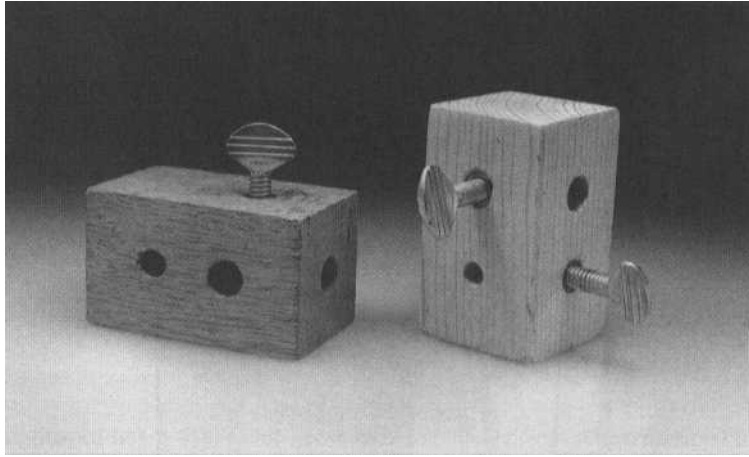

Figure A-7 Wooden adapter blocks with 3/8 and 1/4 inch holes. The 1/4x 20 thumbscrews are threaded into 1/4 x 20 inserts.
Figure A-4 Beam-splitter made of 1/4-inch plywood and lined with black flocked paper as per Figure 7-7. The unit is mounted to an old microscope light base via an adapter (Figure A-7). A 1/4-inch carriage bolt passes through the adapter and is threaded into a threaded insert in a black plate on the side of the beam-splitter box.
**Figure A-6** Homemade gel/filter holder of 1/8 x 1/2 inch flat aluminum stock painted black. Joints are fastened with nuts, lock washers and bolts, or thumbscrews. Mounted to light stand with adapter block. (see Figure A-7)
The unit can be attached to the light stand by means of a homemade adapter such as is seen in *Figure A-7*. A block of wood has a 3/8-inch hole drilled through it, and at right angles to that at the other end of the block is a 1/4 x 20 threaded insert. There is also a threaded insert with a hole that intersects the 3/8-inch hole. These holes are for a set screw to hold the unit in place on a light stand.